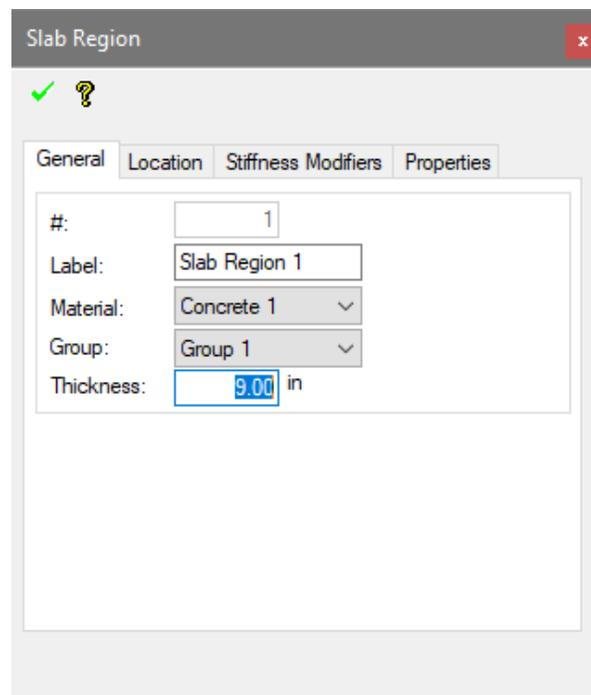

Figure 5-1
- Double-click on the slab region to open its properties window as shown in **FIGURE 5-1** below.